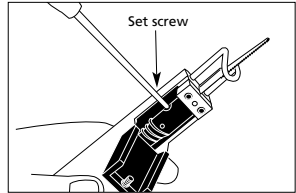

Figure 3
3. Use a 4 mm hex wrench to loosen set screws which secure sawblade in tool (Figures 3 & 4)